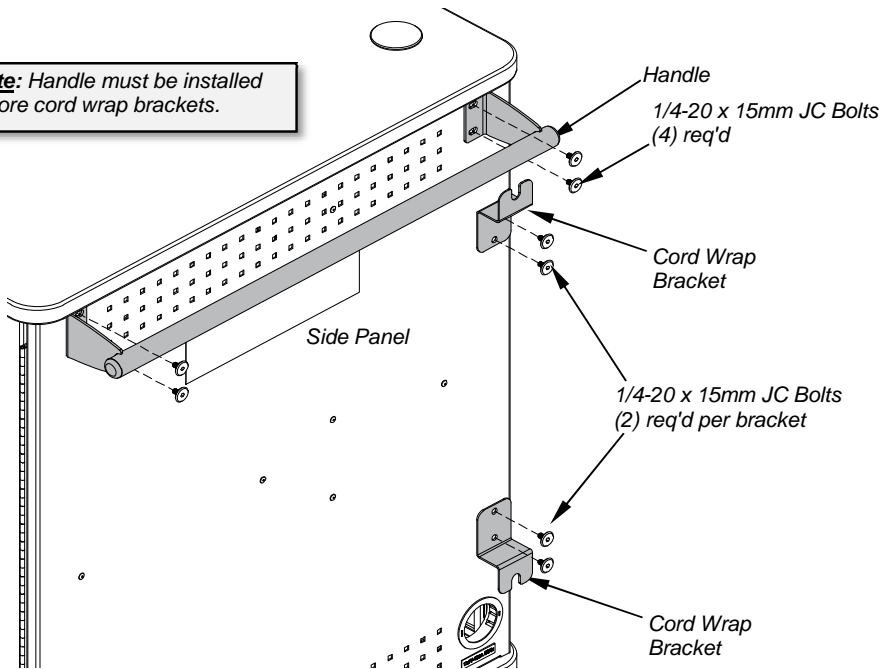

Figure 1A
- A. Determine which side of the cart you would like the handle to be mounted (left or right-side) and attach the handle to the side panel with (4) 1/4-20 x 15mm JC Bolts, and tighten securely. **Figure 1A.**